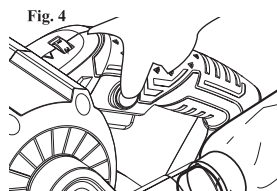

Fig. 4
This tool is equipped with a lock-on key (1). When the key is pressed, press the lock-on key to turn on the continuous operation function without pressing out the on/off control (Fig. 4)